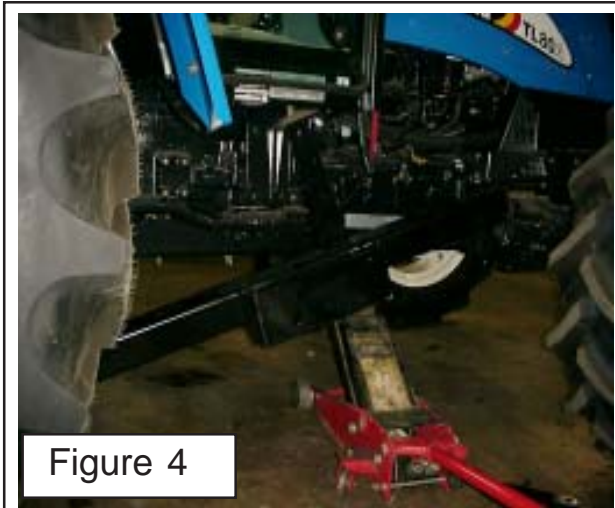

Figure 4
3. 3-Point Stabilizer Bracket The RH side 3 point stabilizer bracket will not be unbolted from the tractors RH rear axle housing (see Figure 4). Leave the stabilizer on tractor IT WILL NOT need to be removed..
5. Raise the frame rail up under the tractor. until the rear mounting plate is under the rear axle and aligned with the two factory cab mounting bolts on the RH rear axle will need to be removed and replaced with the longer bolts (See Figure 4). Using the jack raise the frame up until it is against the rear axle housing. Install the new bolts, nuts, lockwashers, flatwashers and the axle strap (See Figure 1,4, & 5)